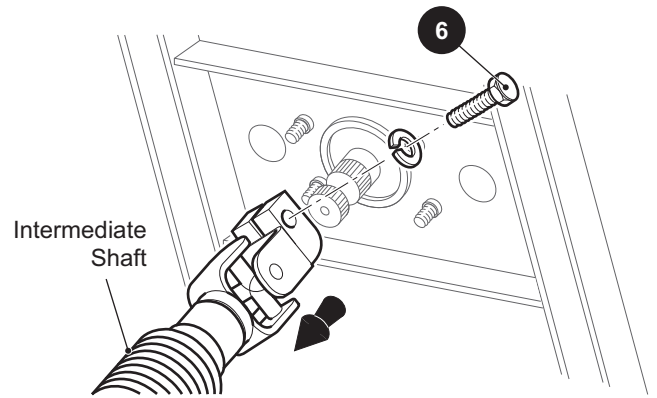

Fig. 4 Disconnect Intermediate Shaft to Center Steering Wheel
1. Remove the bolt connecting the intermediate shaft to the steering shaft and center the steering wheel (Ref Fig. 4).